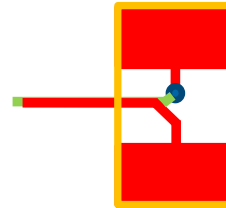

FIGURE 68. RECOMMENDED LAYOUT PATTERN FOR CURRENT SENSE TRACES REGULATOR
12. The current-sensing traces must be laid out very carefully because they carry tiny signals with only tens of mV. For the current-sensing traces close to the power sense resistor (R_{SENx}), the layout pattern shown in Figure 68 is